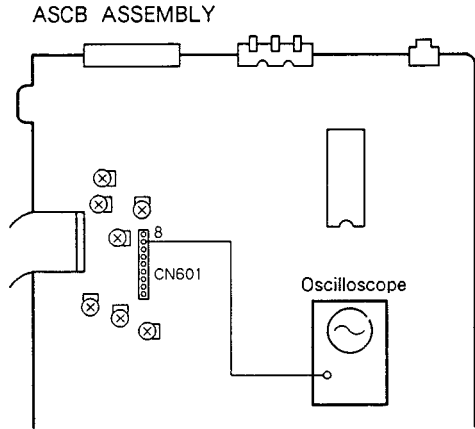

Fig. 1
2. Observe the signal at CN601-8 (TRKG error) in the ASCB assembly and check that the amplitude is minimum and the envelope is smooth. If not, adjust the grating screw using a flat bladed ⊖ screwdriver. (Fig. 1/Photo 3)